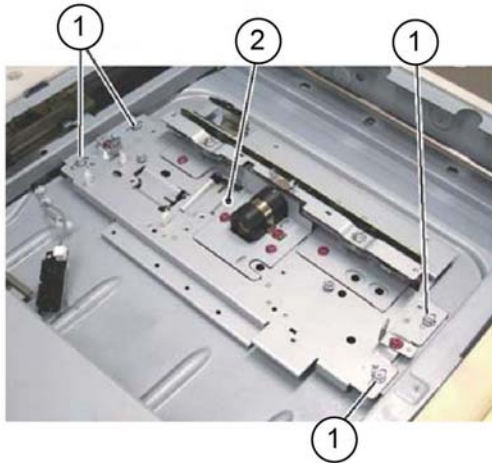

Figure 3 CCD lens assembly removal
5. Remove the CCD lens assembly, Figure 3:
- Remove four screws (1).
- Remove the CCD lens assembly (2).